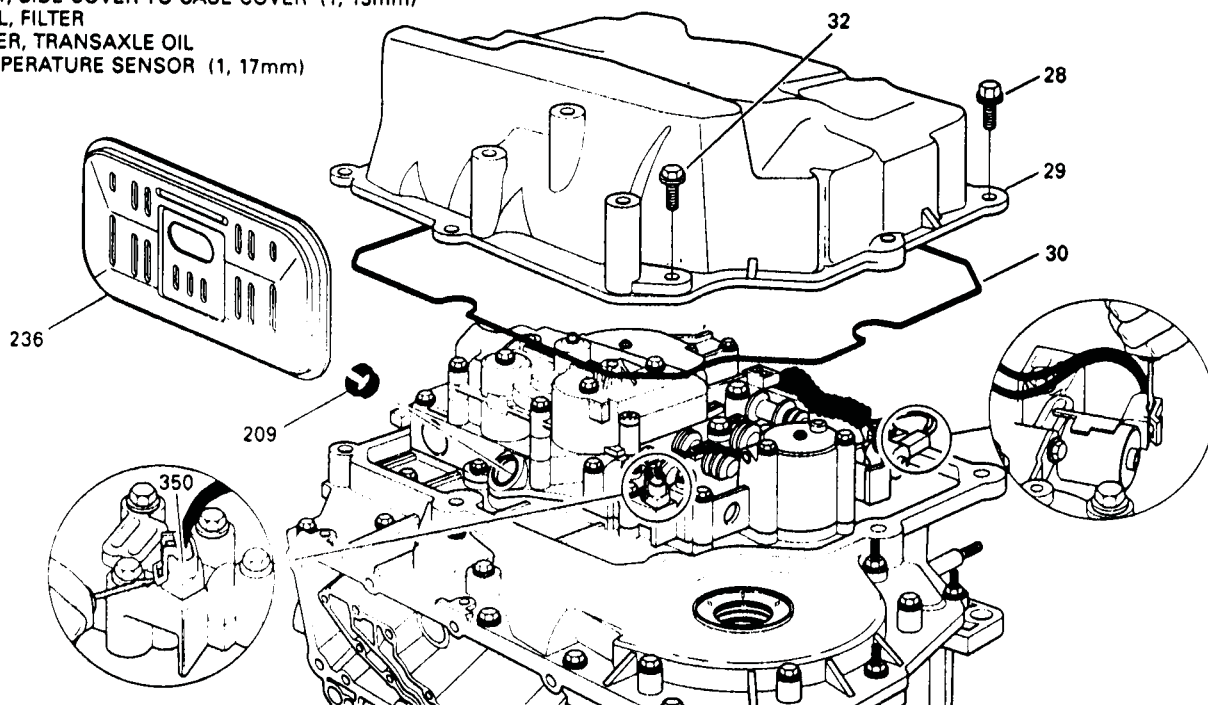

Figure 49
1. Remove nine side cover bolts, notice that one is larger than the others. (See Figure 49).
3. Remove the main transaxle filter and filter seal (See Figure 49).
4. Seal may remain in secondary pump body, use small screwdriver to pry out (See Figure 49).
6. Use a small screwdriver to disconnect Temp Sensor, TCC Solenoid, and the Pressure Control Solenoid connectors by prying back tabs (See Figure 49).